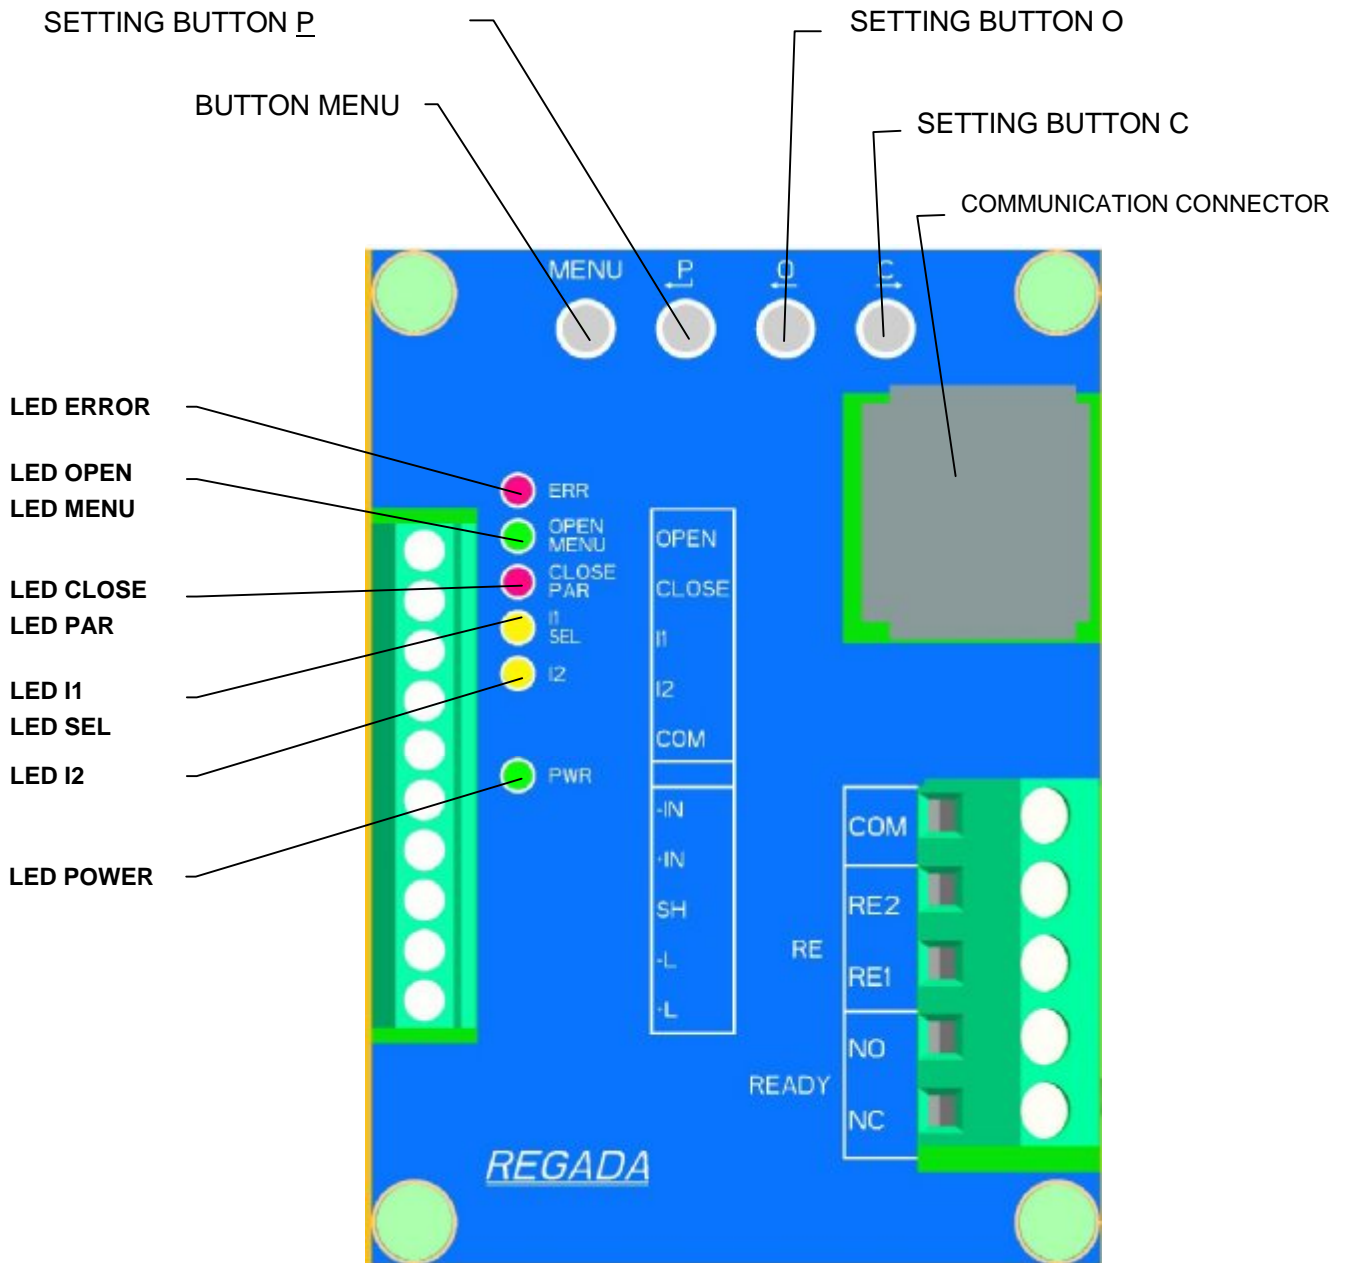
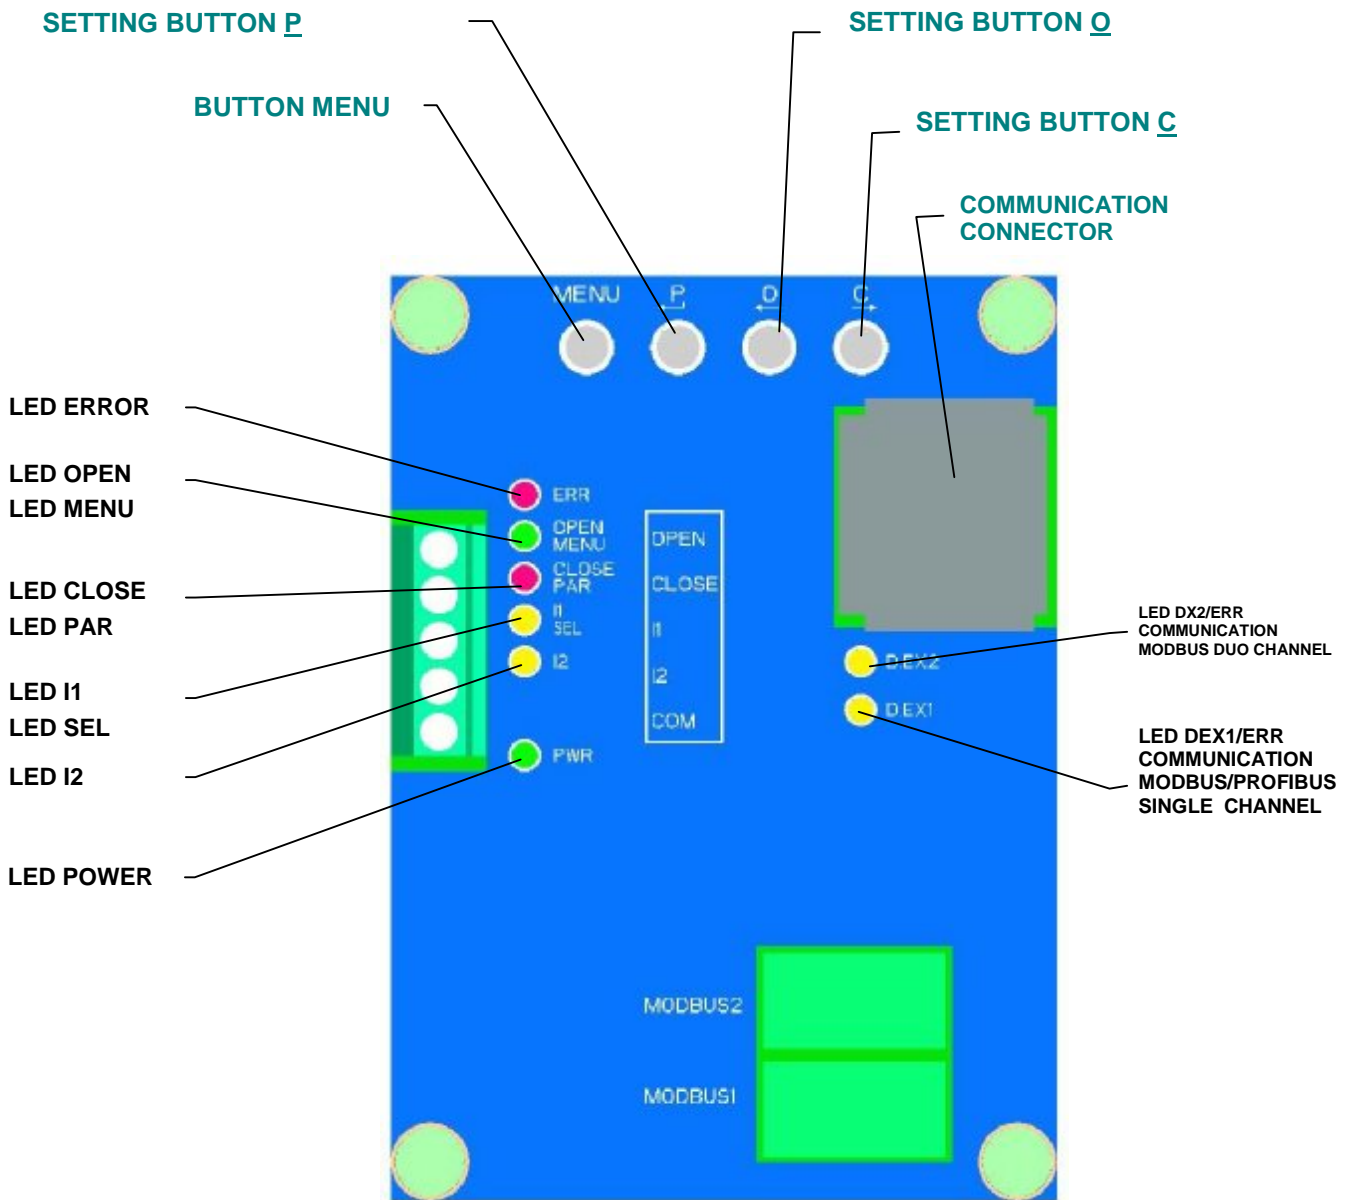

Fig. 6
Fig.6a
Adjustment is made onto mechanical and electrical connected actuator. This chapter describes how to set up the EA to parameter values within a range applicable for the software. Location of adjustable parts of control board is on **Fig. 6 and Fig. 6a**.
- by operating the control unit buttons (see **Fig. 6 and Fig. 6a**);
- six signal lamps according (LED diode) to **Fig. 6 and Fig. 6a**.